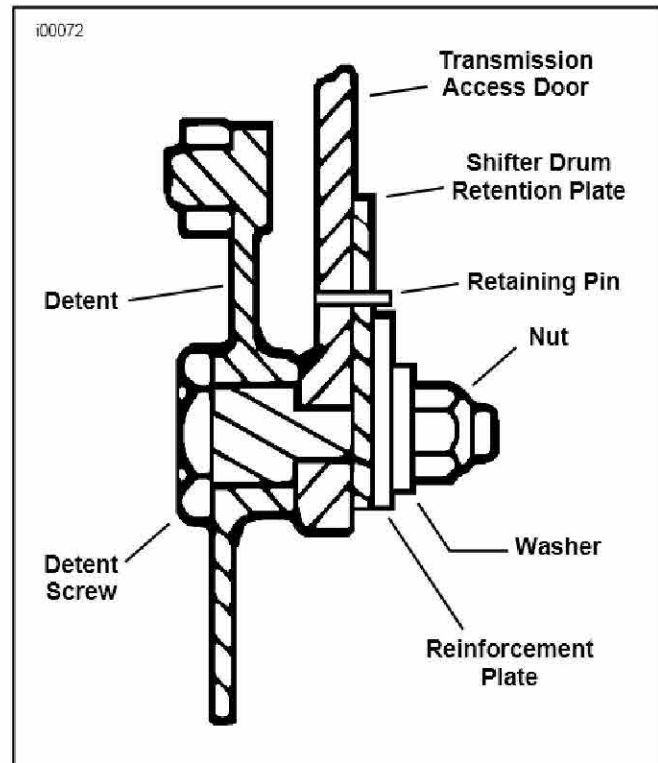

Figure 1. Detent Mounting Assembly
- a. See Figure 1. At the inside of the access door, place the new style shifter drum retention plate in the groove of the drum shaft while fitting the retaining pin in the bore of the transmission access door.